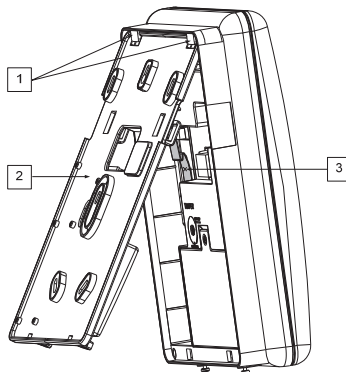

Figure 2: Mounting Bracket removal
3. Gently, pull up the mounting bracket to a 45° angle and slide it down to release the mounting bracket (Figure 2, detail 2) from the two locking tabs (Figure 2, detail 1) at the top of the unit.
4. Disconnect the ribbon cable (see Figure 2, detail 3) from the power supply module while leaving it connected to the main panel.